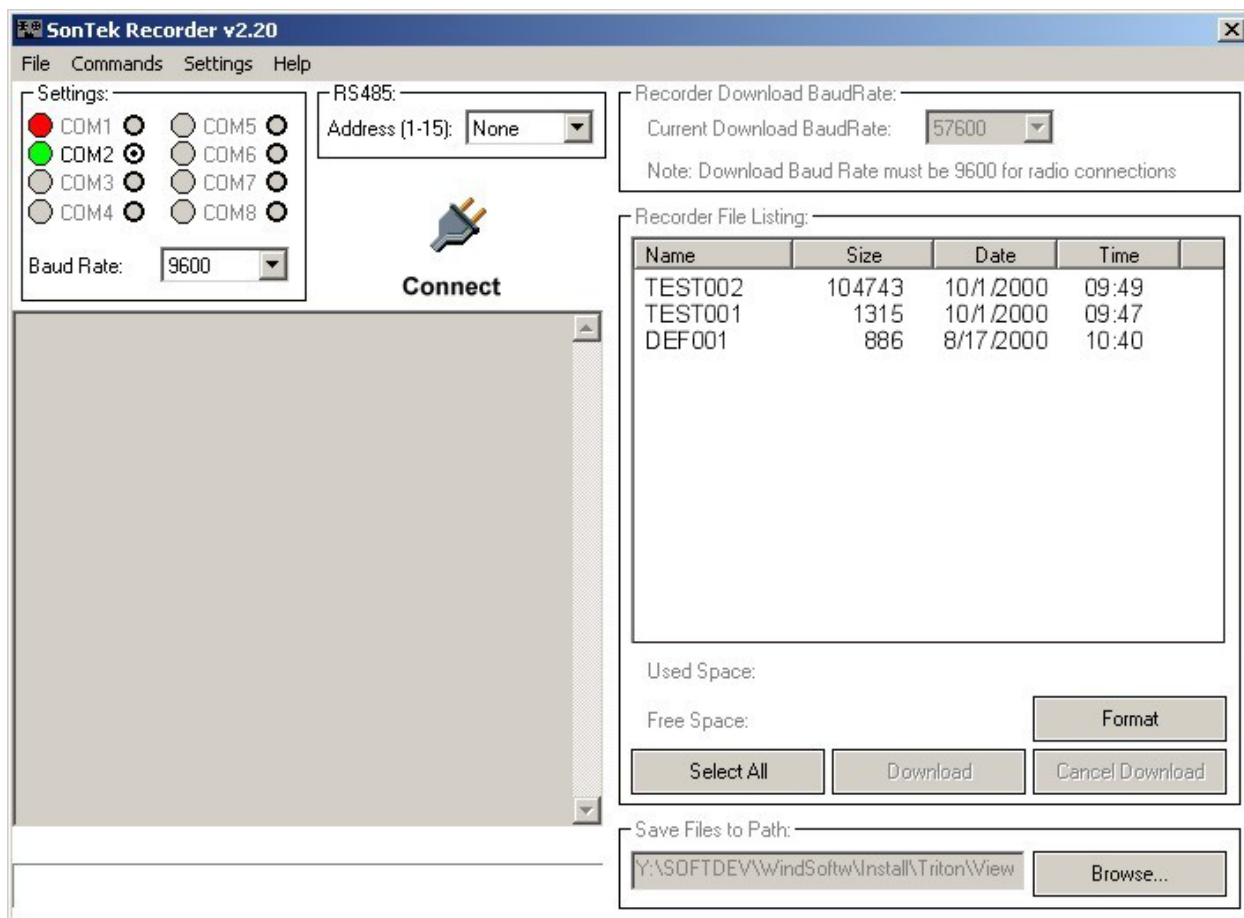

Figure 9 – ViewTritonPro Recorder Module
- *Recorder* will establish communication with the Triton and display the recorder's directory (Figure 9).